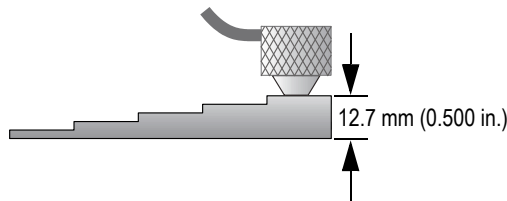

Figure 5-4 Sound velocity calibration on a five-step test block — Thick part
- b) Couple the transducer to the thick part of the test block using moderate to firm pressure (see Figure 5-4 on page 57).